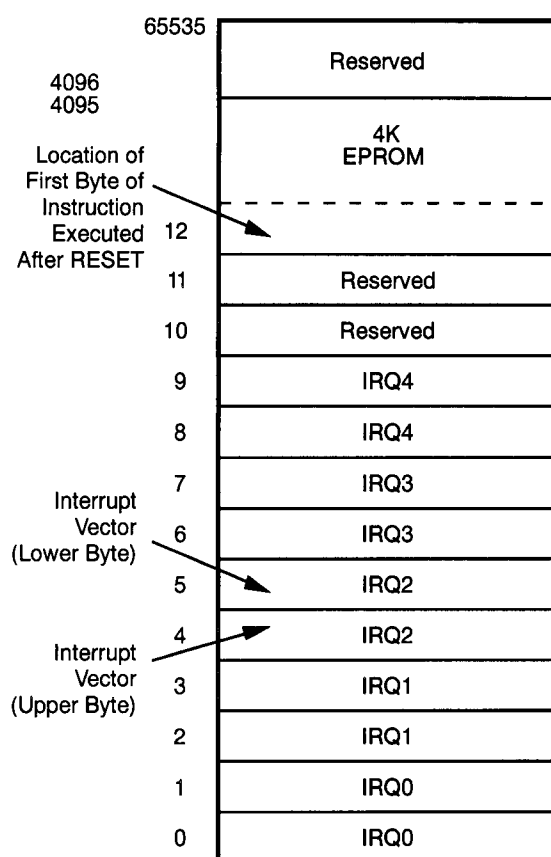

Figure 11. Program Memory Map
**Program Memory.** The 16-bit program counter addresses 4 KB of program memory space at internal locations (Figure 11).